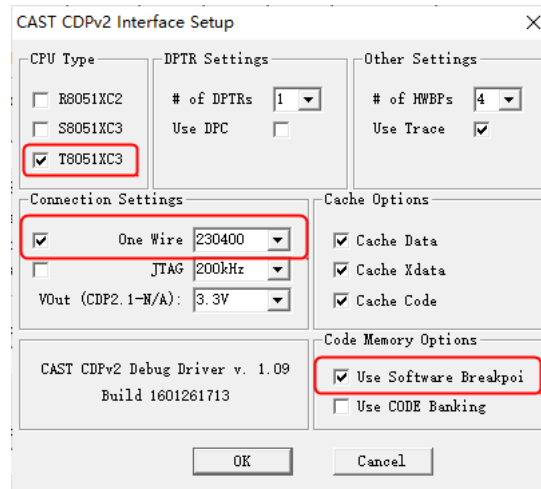

Figure 2-10. Set debugger parameters
- Step 5: Click the "settings" button on the right side of the selection menu to pop up the settings window, as shown in Figure 2-10.